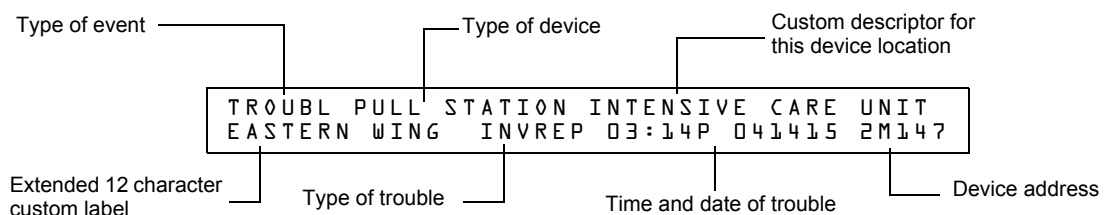

Figure 3.8 Sample Trouble Message
- Displays TROUBL in the status banner on the LCD display as well as the type of trouble and information specific to the device, as shown in Figure 3.8 below.